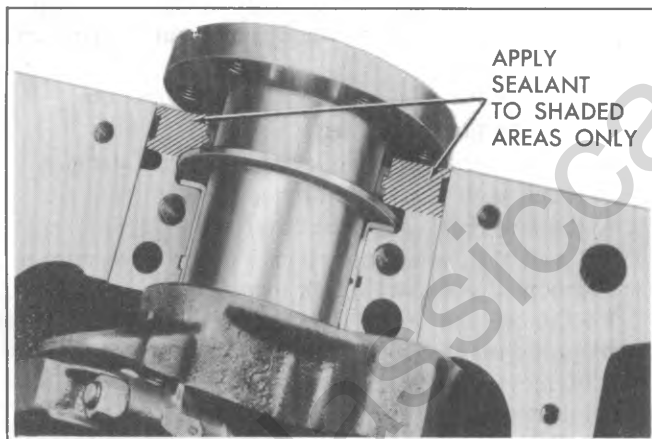

Fig. 6A1-48--Sealing Bearing Cap
5. Apply a thin coat of brush-on type oil sealing compound to block mating surface and corresponding surface of cap only (fig. 6A1-48). Do not allow sealer on crankshaft or seal.